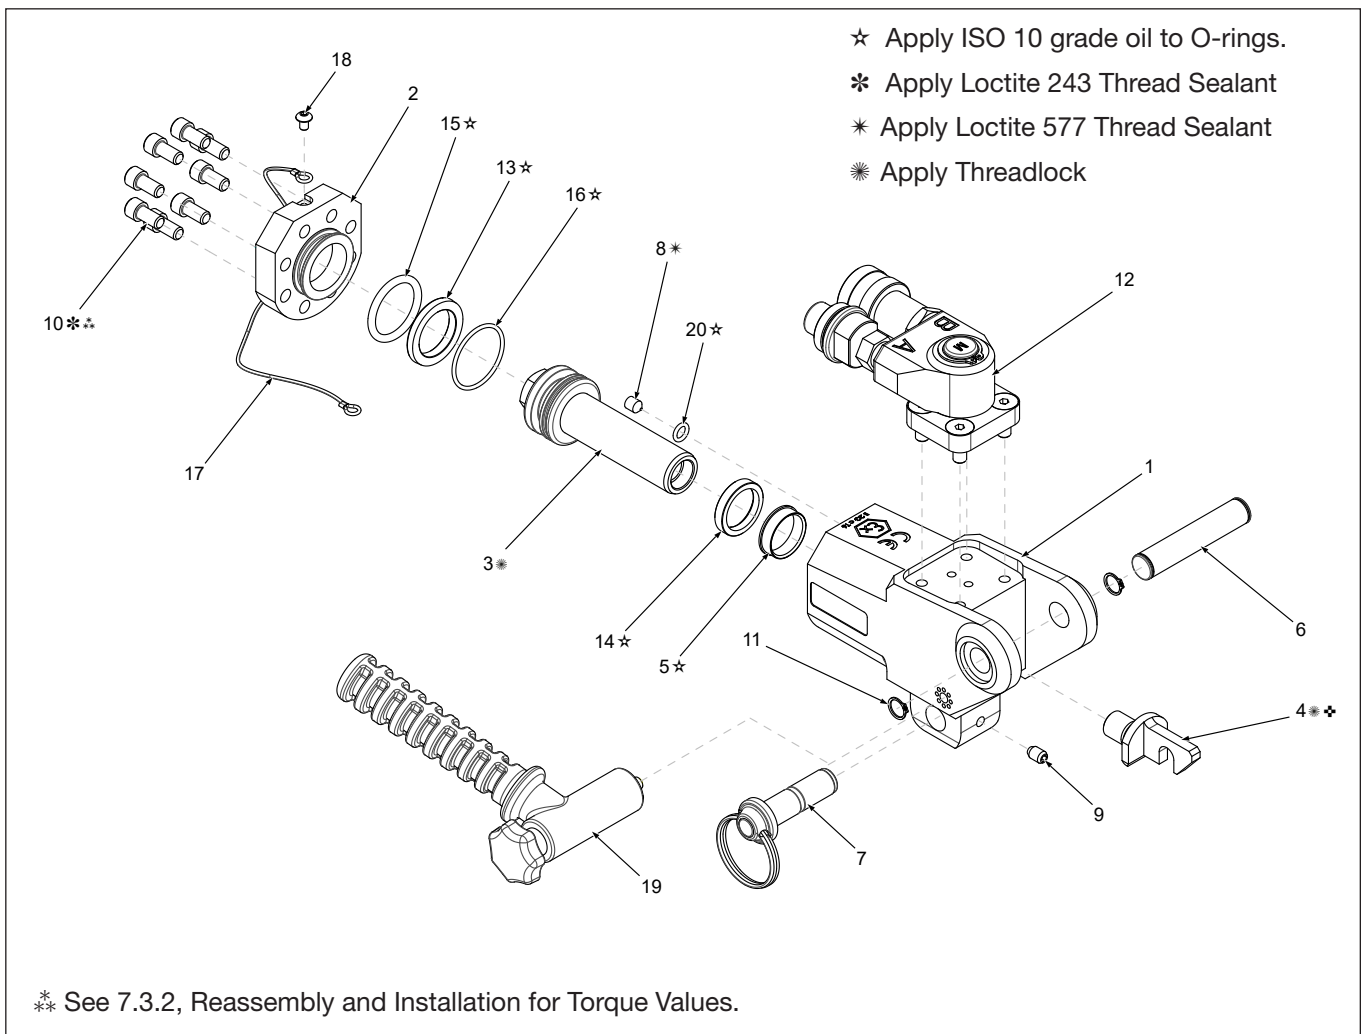

Figure 19: Exploded HMT
- Install a new O-rings (D) into the grooves on the swivel post (E).
- Coat O-rings (D) with a small amount of silicone grease. Then, carefully slide the swivel assembly (B) onto the swivel post (E).
- Reinstall the circlip retainer ring (A).
7.3.2 HMT Drive Unit (Fig. 19)
NOTICE Be sure that the ratchet, drive plate, pawl, pawl spring, square drive, access plugs, and compression springs are correctly installed, in the reverse order of disassembly. Failure to install these parts correctly will result in component damage. Refer to figures 19 and 20.